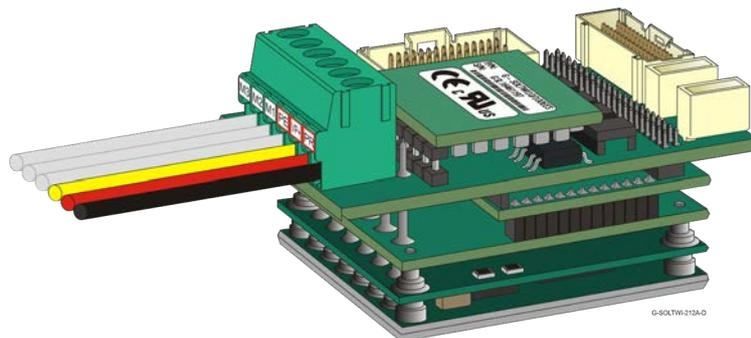

Figure 11: Connecting the Main Power Wires
3. Connect the VP+ and PR wires to the terminals on the servo-drive as shown in Figure 11. It is highly recommended to twist the two DC main power cables at intervals of 10 cm.